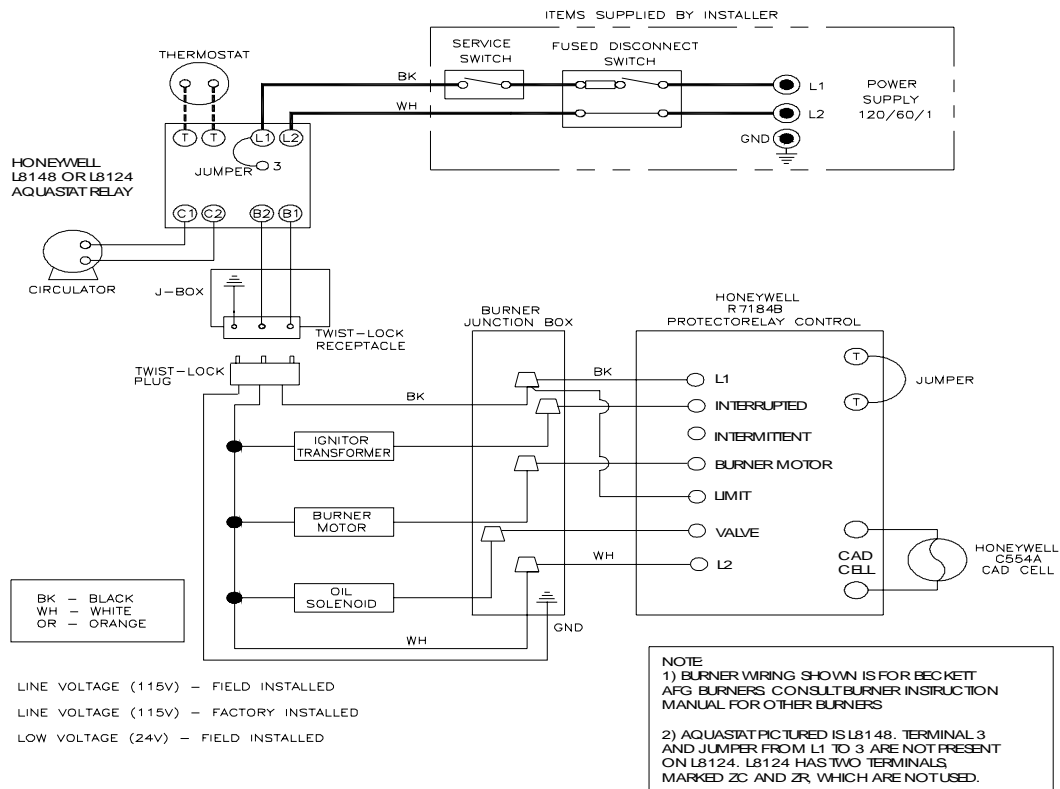

FIGURE 19: WIRING DIAGRAM, SINGLE HEATING ZONE ONLY
- 1) 120 Volt Wiring - The boiler should be provided with its own 15A branch circuit with fused disconnect. All 120 volt connections are made inside the L8148 or L8124 aquastat relay as follows (also see Fig. 19):